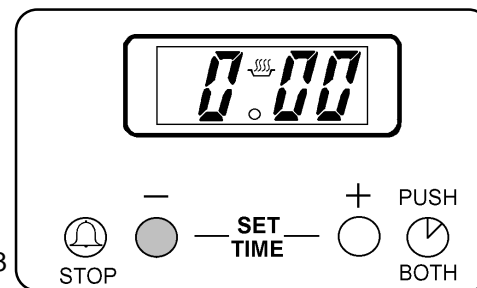

Fig.8
Press and hold button (1) and the display will count down in one minute intervals to 0:00. See Fig.8.